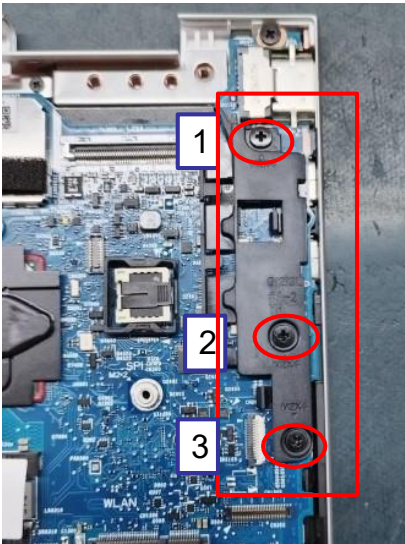

Figure 1
1. Loosen screws M2.0*4.0 (6052B0081901)*3, remove the right IO Frame (6051B1725201) (Figure 1).